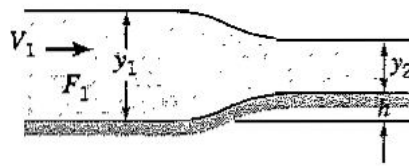

Figure P10.15
10.15 A smooth transition section connects two open channels of the same width, as shown in Figure P10.15. The water depth decreases so that the ratio of the downstream to upstream depths $Y_2/Y_1 = 0.5$. If the upstream Froude number $F_1 = 0.35$, determine the downstream Froude number F_2 , and the ratio h/Y_1 .